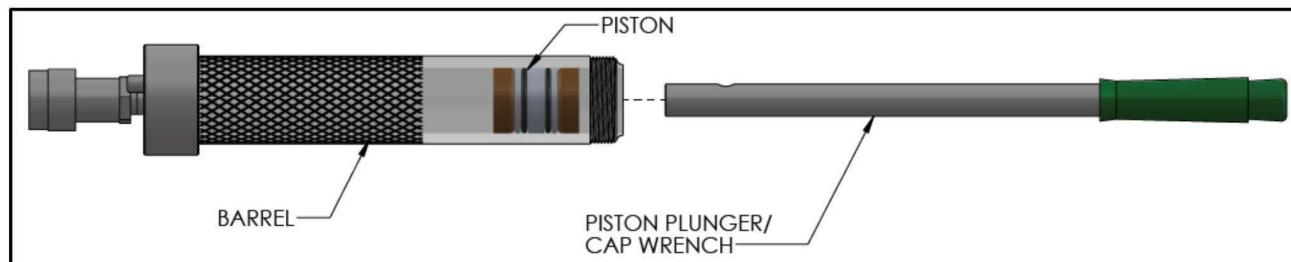

Figure 7
- 2.) To insert sealant into a sealant barrel, make sure the piston is at the bottom of the barrel. Figure 7 shows how to insert the piston. The connected hydraulic pump needs to be in the release position to allow oil to flow back into the pump. The piston is a very tight fit. A hammer may be needed to drive the piston back. If the supplied piston plunger is lost, a piece of pipe or handle of a hammer may be used to drive the piston back.